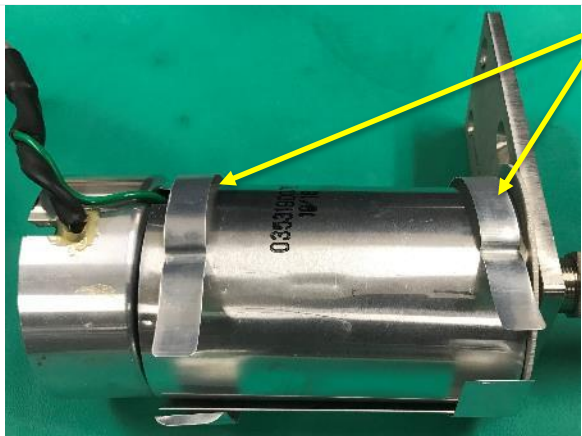

Figure 219. Remove Aluminum Cable Ties.
STEP 7 | Unlatch aluminum cable ties from the aluminum rain shield (**Figure 219**).